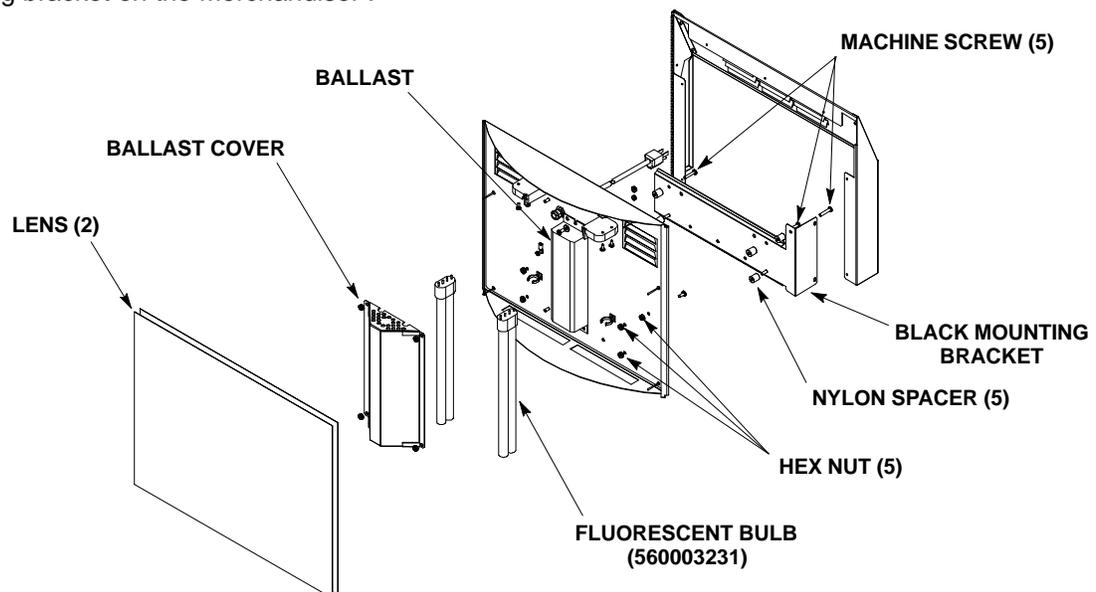

FIGURE 1. MERCHANDISER MODIFICATION
(see Figure 1)
4. Re-install mounting bracket back on the Merchandiser and secure with five loose-shipped machine screws and hex nuts retained in step 1 preceding. Make sure machine screws are re-installed in merchandiser assembly as shown in Figure 1.